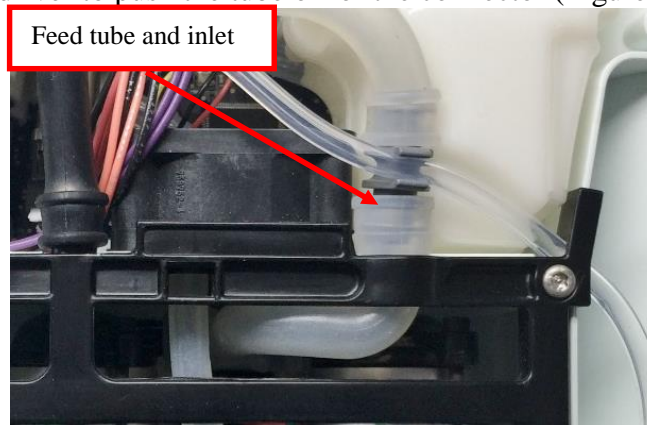

Figure 4: Remove feed tube from inlet union
4. Disconnect the singular end of the feed tube from the inlet union using a small flathead screw driver to push the tube off of the connector (Figure 4).